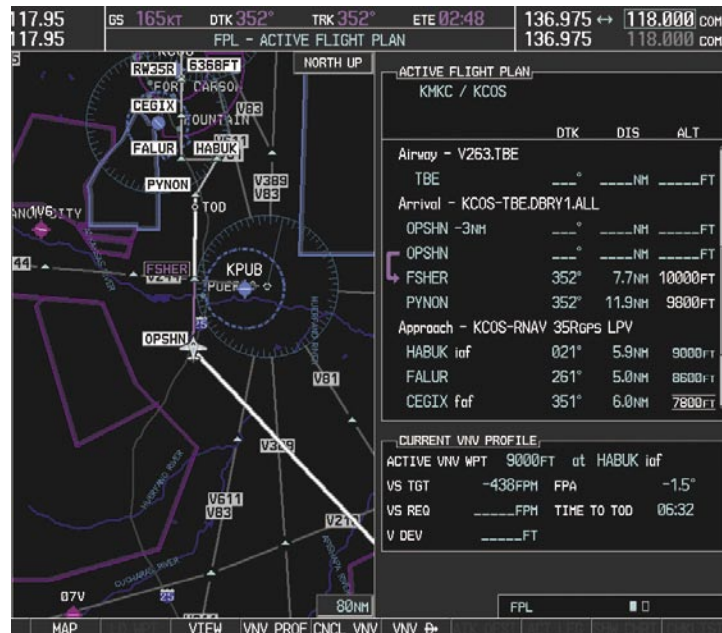

Figure 5-130 Tracking the OPSHN to FSHER Leg
- 19) After passing OPSHN, the next leg of the arrival turns magenta as shown in Figure 5-130. The magenta arrow in the flight plan list now indicates the OPSHN to FSHER leg of the arrival procedure is now active.